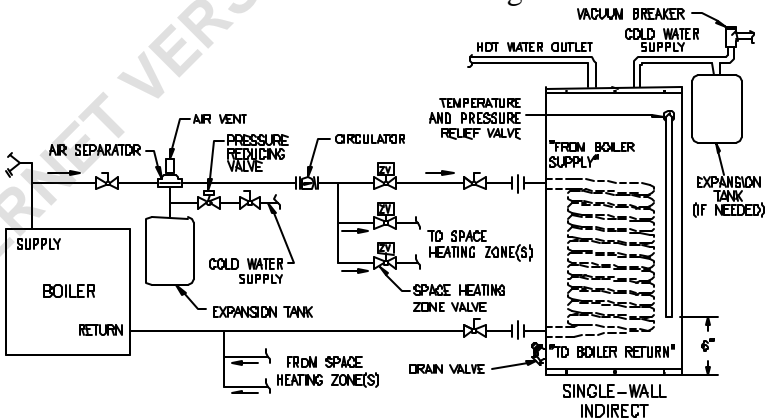

Figure 3 - Water Boiler Piping with Circulators
- For a space heating system that utilizes CIRCULATORS, refer to Figure 3. The Single-wall Indirect connection labeled "FROM BOILER SUPPLY" should be piped to the boiler supply piping. Mount the circulator making sure the flow arrow points toward the water heater. The use of shut-off valves and unions are recommended for future service convenience. The use of an air separator and vent is recommended to eliminate air in the system. Pipe and fittings between the boiler and Single-wall Indirect must be $\frac{3}{4}$ " diameter or larger.